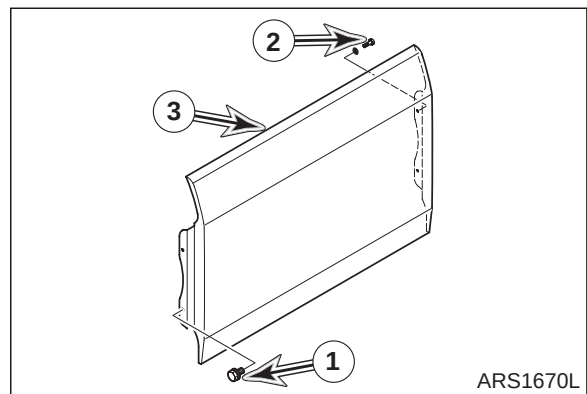

Figure 11
16. Remove four bolts (1 and 2, Figure 11) and cover (3) from fuel tank and support.